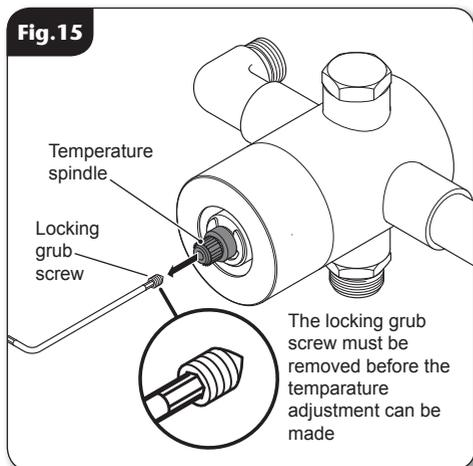

Fig. 15
- If the control is in place, remove it. There is a locking grub screw in the end of the temperature spindle that **MUST** be removed to gain access to the adjuster screw (**fig.15 - 16**).